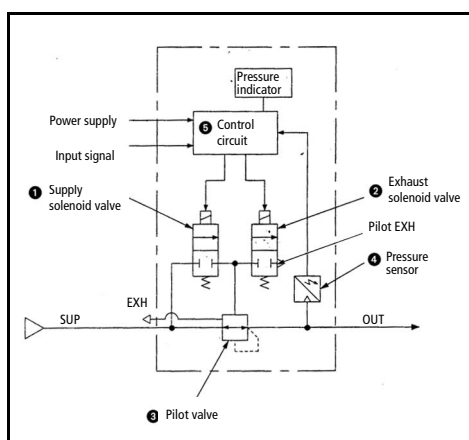

Fig 3
ITV2000, ITV3000 : When the input signal increases, the supply solenoid valve ① turns on (Refer Fig 3) and the exhaust solenoid valve ② turns off. Supply pressure is passed to the pilot valve ③ through the supply solenoid valve. The pilot valve will open the main valve allowing partial supply pressure to pass to the out port. The pressure sensor ④ will provide output pressure feedback to the control circuit ⑤. The control circuit will balance the input signal and output pressure to ensure that the output pressure remains proportional to the input signal.